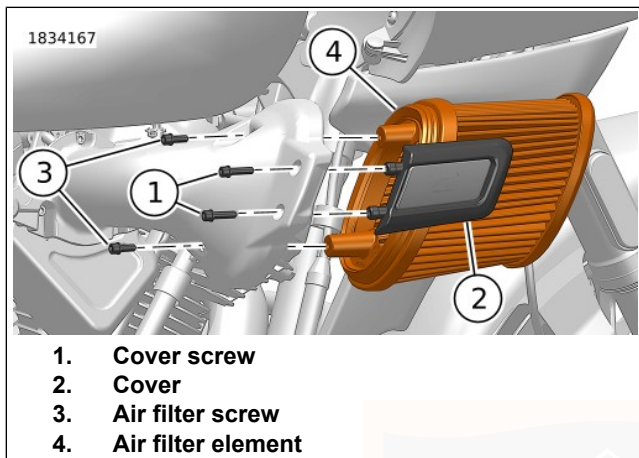

Figure 102. Air Filter Element
1. See Figure 102. Remove two cover screws (1) and remove cover (2).
2. Remove air filter screws (3) and remove air filter element (4).
1. See Figure 102. Apply Loctite 243 MEDIUM STRENGTH THREADLOCKER AND SEALANT (BLUE) to threads of air filter screws (3).
2. Install air filter element (4).